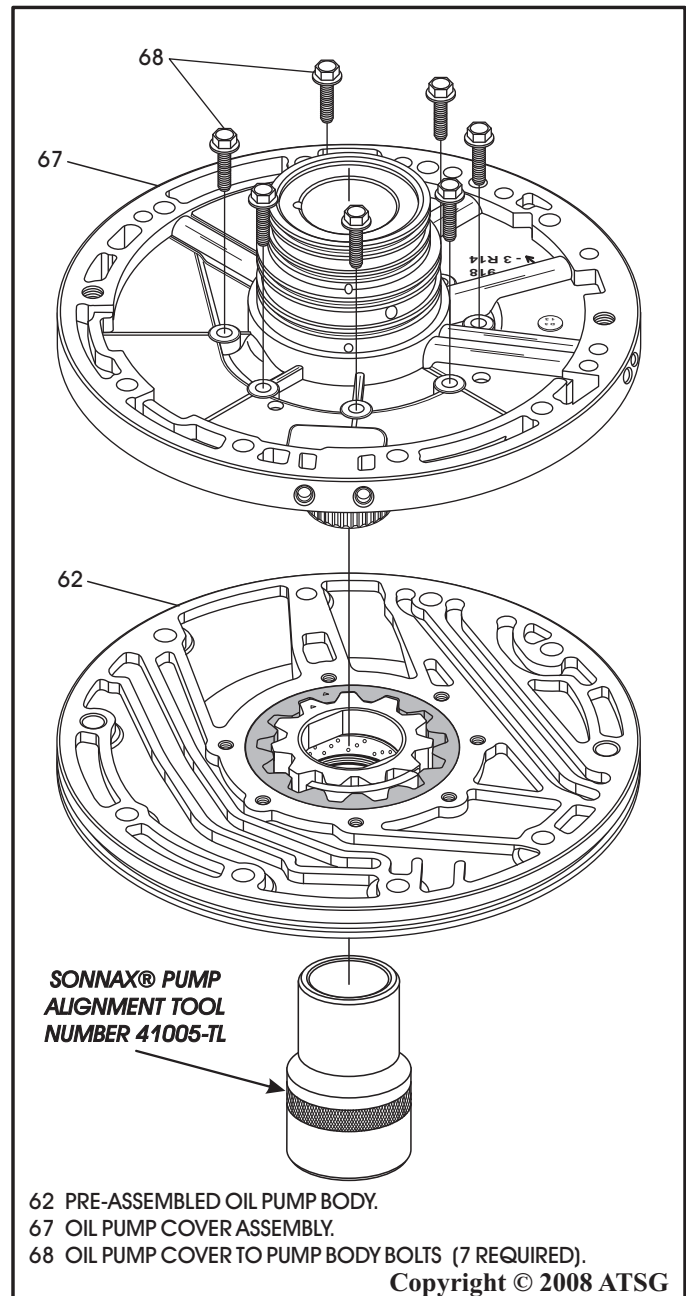

Figure 83
11. Install Sonnax® pump alignment tool through the pump bushing, as shown in Figure 83.
12. Install the oil pump cover onto the oil pump body, as shown in Figure 83, and install the 7 retaining bolts.